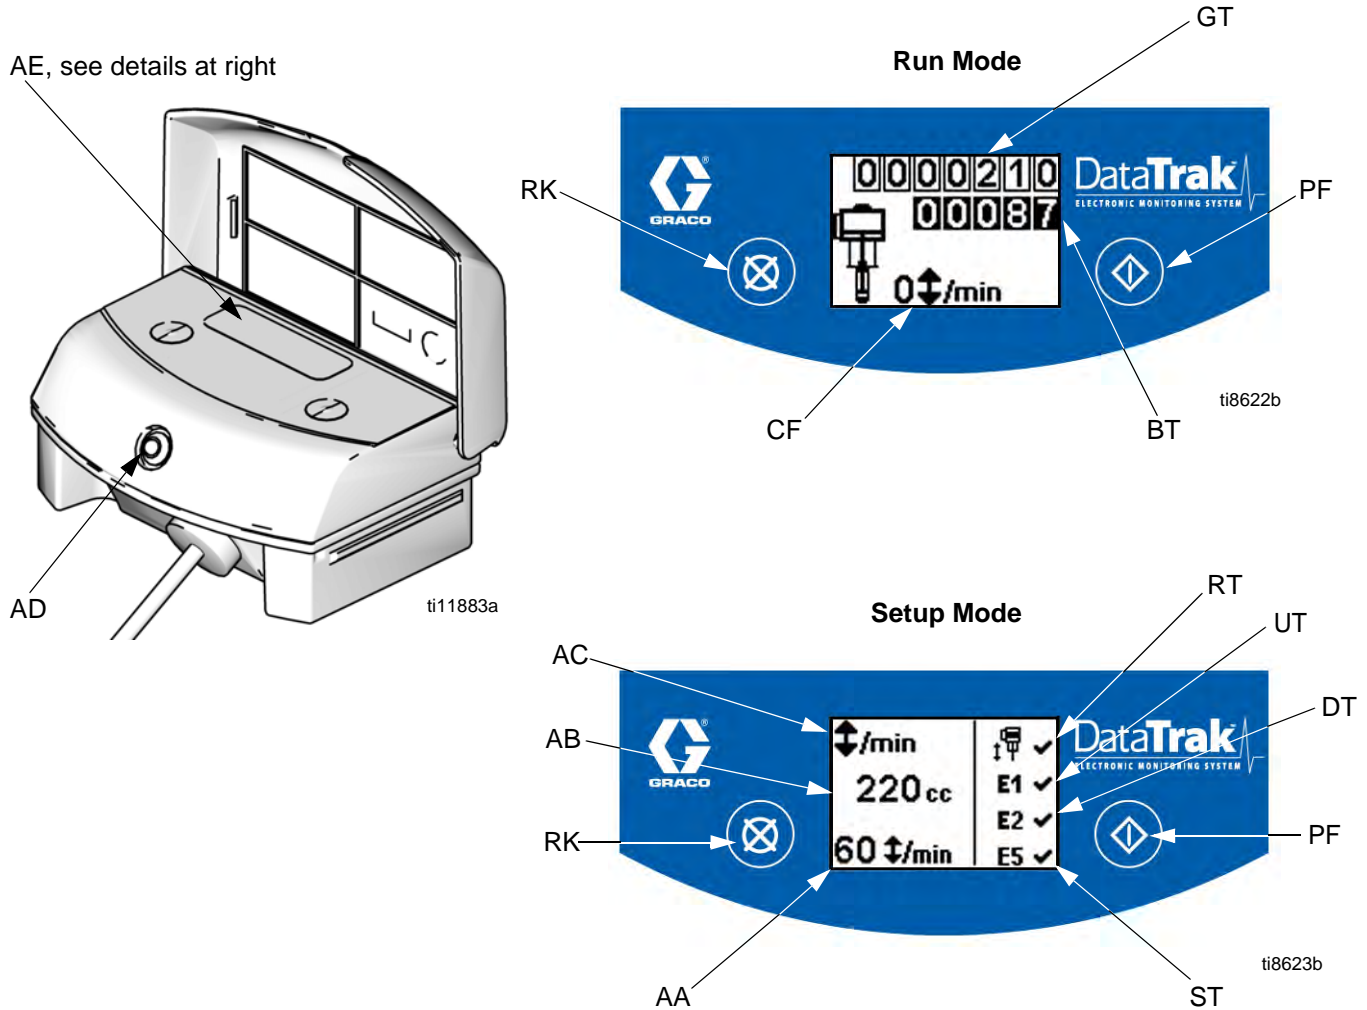

Fig. 1. DataTrak Controls and Indicators
Key for Fig. 1
1. See Fig. 1. Press and hold  for 5 seconds until Setup menu appears.
NOTE: When runaway, E1, E2, and E5 error options are enabled, a  will appear on the setup screen. See Fig. 1.
1. See Fig. 1. If pump runaway occurs, the runaway solenoid will actuate, stopping the pump. The LED (AD) will flash and the display (AE) will indicate a runaway condition (see Table 1 on page 11). The display will cycle through six instruction screens.
2. Runaway Screens 1 and 2: To reset the runaway solenoid, close the master air valve (E). Wait for air to completely bleed off the air motor.
3. Runaway Screens 3 and 4: After the air is bled off, push the solenoid release button (J) down to reset the air valve. The button will pop back up when the air valve is repressurized.
5. Open master air valve (E) to restart pump.
To disable runaway monitoring, go to setup mode and set runaway value to 0 (zero) or toggle (RT) off  (see Fig. 1).
1. See Fig. 1. To enter Prime/Flush mode, press any key to wake up the display, then press . The Prime/Flush symbol will appear in the display and
See Fig. 1. The last digit of the batch totalizer (BT) represents tenths of gallons or liters. To reset the totalizer, press any key to wake up the display, then press and hold  for 3 seconds.
See Fig. 1. The display (AE) will turn off after 1 minute of inactivity in Run mode or 3 minutes in Setup mode. Press any key to wake up the display.
DataTrak can diagnose several problems with the pump. When the monitor detects a problem, the LED (AD, Fig. 1) will flash and a diagnostic code will appear on the display. See Table 1 on page 11.